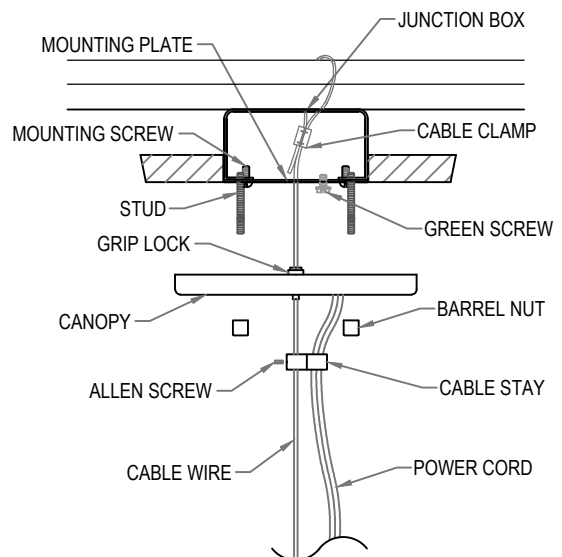

FIGURE-1
6. Attach the cable wire to the building structure or brace using the cable clamp (See figure-1). Cut off the excess.